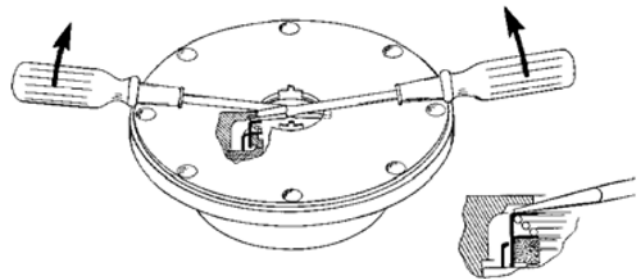

Figure 5 – Mechanical Seal Removal
4. **On X model pumps**, remove the inboard bearing cover capscrews (28) and slide the inboard bearing cover (27A) and gasket (26) off the shaft. Discard the gasket. On the X2 and X2.5-inch pump models, the dirt shield will come off with the bearing cover. Inspect dirt shield and replace as required.
5. Remove the outboard bearing cover capscrews (28) and the outboard bearing cover (27) and bearing cover gasket (26). Discard the bearing cover gasket.
7. Remove the head capscrews (21). Gently pry the head away from the cylinder.
8. Slide the head off the shaft. The head O-ring (72), bearing (24), and mechanical seal (153) will come off with the head assembly. Remove and discard the head O-ring.
- a. Pull the bearing (24) from the housing in the head.
- b. To remove the mechanical seal, use two screw drivers against the backside of the seal jacket to gently push the seal from the head (see Figure 5). Use care when placing the screw drivers to prevent damage to the seal faces. Remove and discard the seal O-rings.